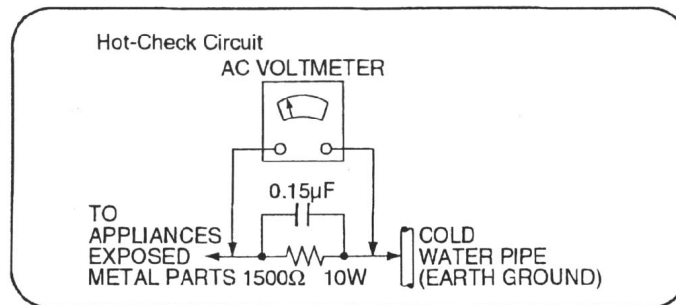

Figure 1
### 1.1.2. Leakage Current Hot Check (See Figure 1)
2. Connect a 1.5kΩ, 10 watts resistor, in parallel with a 0.15μF capacitors, between each exposed metallic part on the set and a good earth ground such as a water pipe, as shown in Figure 1.